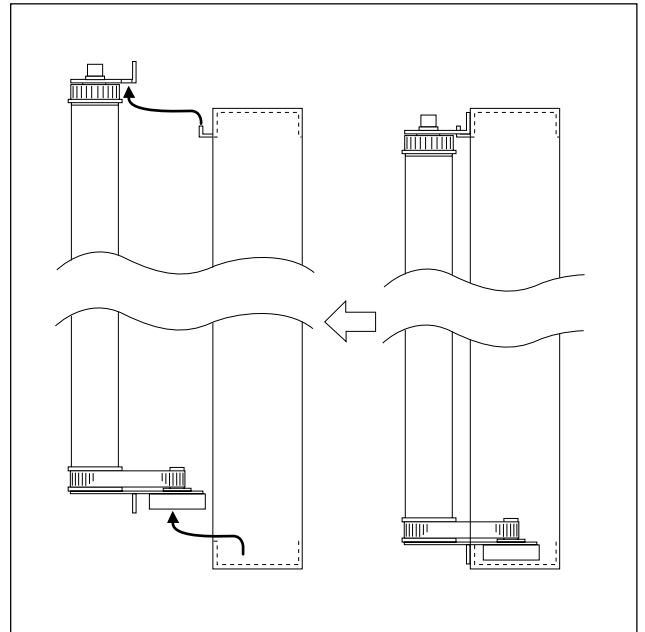

Fig. 11
2. Remove the Sheet Frame Unit as shown in Fig. 11.